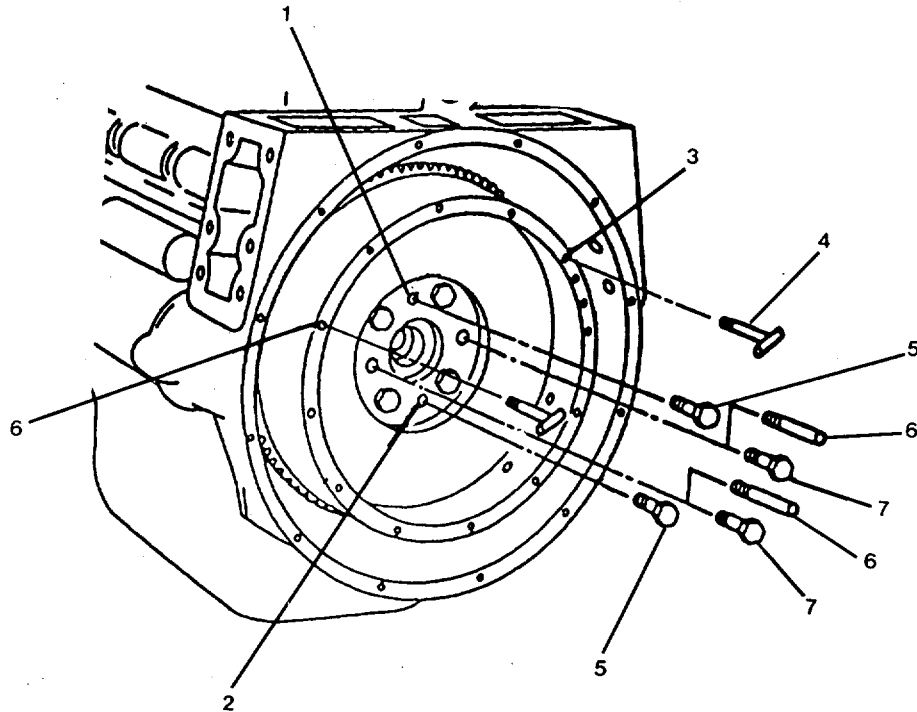

FIGURE 3-79. Guide Studs and T-Handles.
- (1) Hold the flywheel to prevent rotation.
- (2) Install two 1/2-13 x 1-1/2 puller capscrews (5, FIGURE 3-79) which have a minimum of 1-1/4 inch threaded area at points (1) and (2).
- (3) Remove capscrews (7) and install two 5/8-18 x 6 inch guide studs (6).